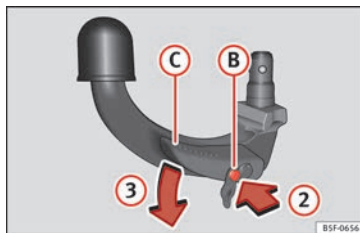

Fig. 210 Step 2.
- Press the release bolt (B) in the direction of arrow ②, and at the same time press lever (C) in the direction of arrow ③ as far as it will go »» Fig. 210.